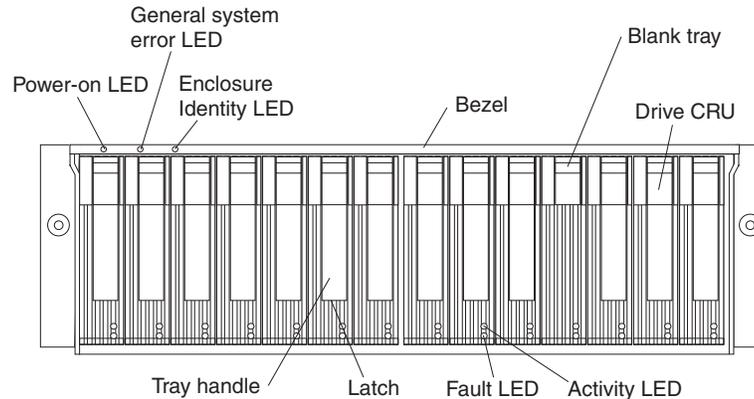

Figure 36. Hot-swap hard disk drive LEDs
2. Check for Fault LEDs shown in Figure 36. If any amber LEDs are lit, see Chapter 4, “Solving problems” on page 49.